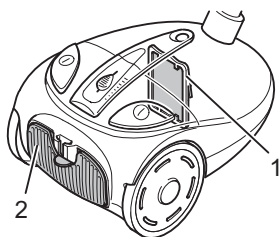

Fig. 22
■ **If the dust filter bag is defective, a protective motor filter (Fig. 22/1) prevents larger particles from destroying the motor.**
■ **A hygienic blow-out filter (Fig. 22/2) filters the finest particles from the blown-out air.**